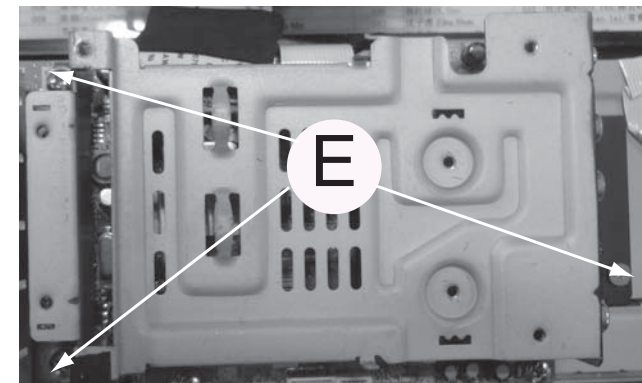

Figure 5
1) Loosen 3 screws "E" at the bracket as shown in figure 5.